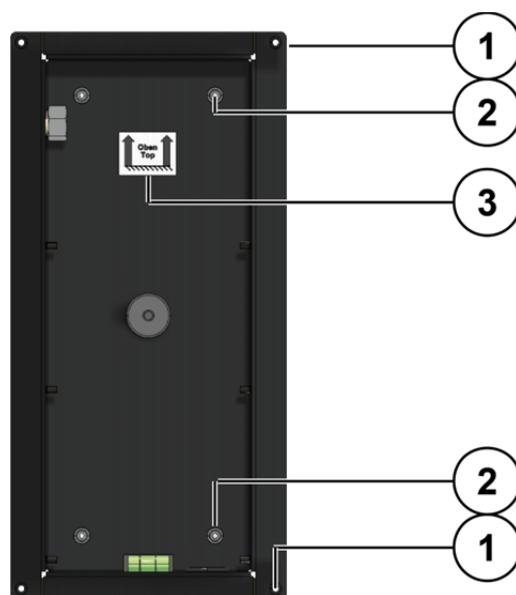

Fig. 2: Attachment holes
- Mark the drilling holes with the help of the flush-mount box (Fig. 2). For fixing the flush-mount box you can use the outer holes **(1)** or the inner holes, depending on the type of installation **(2)**.